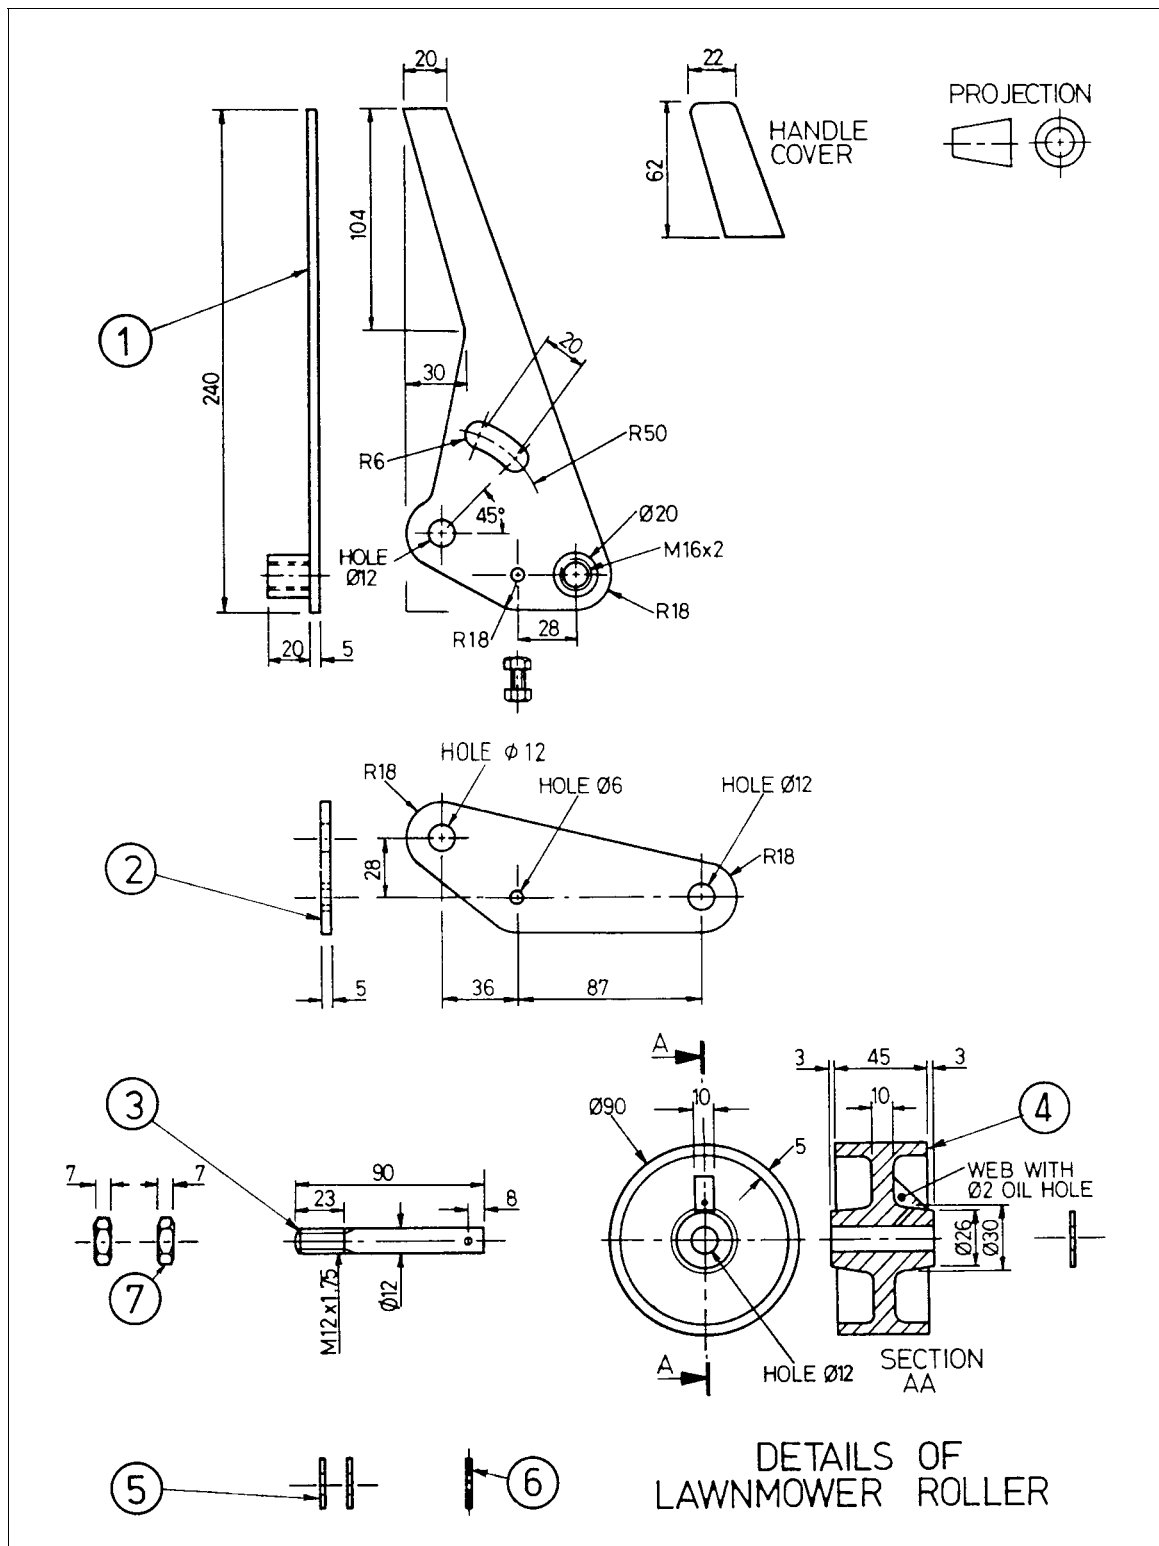

FIG. 1
- (a) Two mechanical drawings of a lawnmower roller are shown in Figure 1 on page 2 and Figure 2 above.
(b) Figure 1 on page 2 and Figure 2 on page 3 are two types of mechanical drawings.
(i) IN FIGURE 1